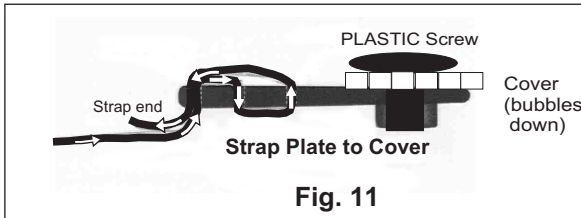

Fig. 11
- Choose either Fig. 11 OR Fig. 12 - the appropriate instructions below for your pool shape. If you have determined a mid-pool or off-center placement, it will be easier if you move the cover away from the pool and fold it (bubbles in) on a flat surface.
**For Systems Placed at Pool End (Rectangular Pools) (Fig.11)**